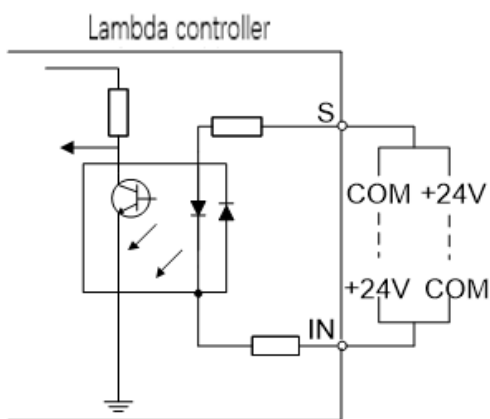

Figure 2-1 Enter switch value to connect machine switch
- As shown in figure 2-1, this signal type supports high/low level input valid. When connected to normally open, it represents the received signal with COM conductive; when connected to normally closed, it is disconnected from COM to indicate received signal.